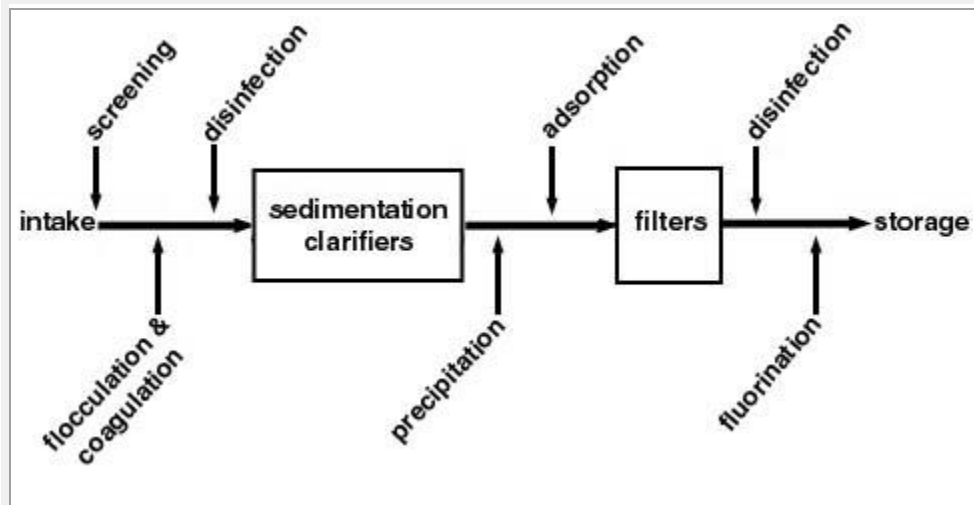

Figure 9
The processes of screening, sedimentation, precipitation, filtration, adsorption, and disinfection work together to remove the unwanted substances from our water supply, making it safe to drink and appropriate for other uses. Addition of other chemicals, such as fluoride, further enhance the quality of the water for drinking. Figure 9, below, depicts a flowchart showing how these processes work together. Once the water is treated, it is sent to storage chambers and then distributed to household consumers, businesses, and industries.
- Figure 9, "Filtration in the water-treatment process," shows that adsorption typically occurs before filtration. Briefly, explain why this order of events is important.